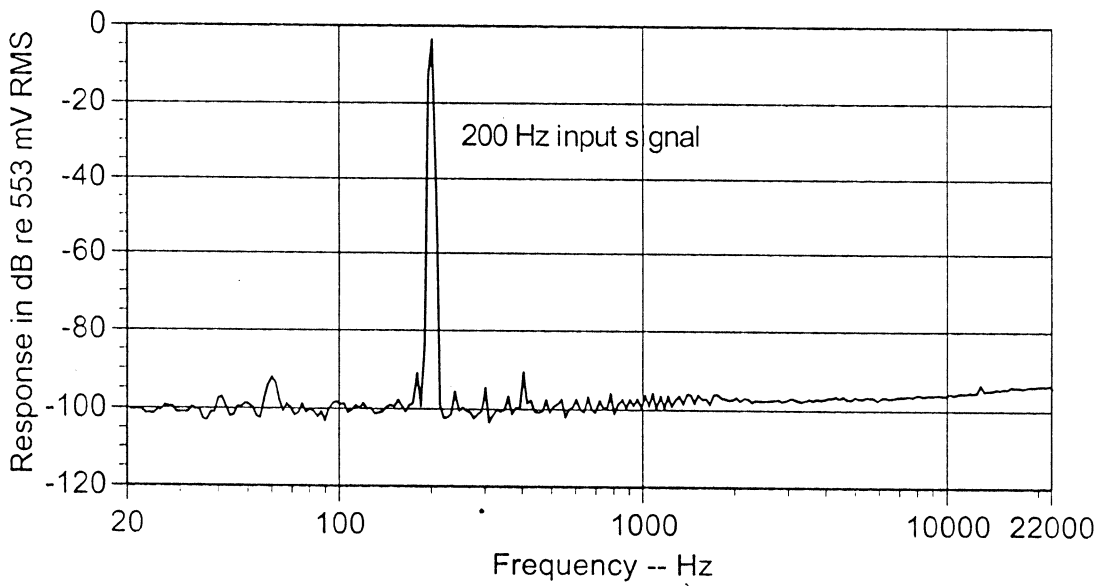
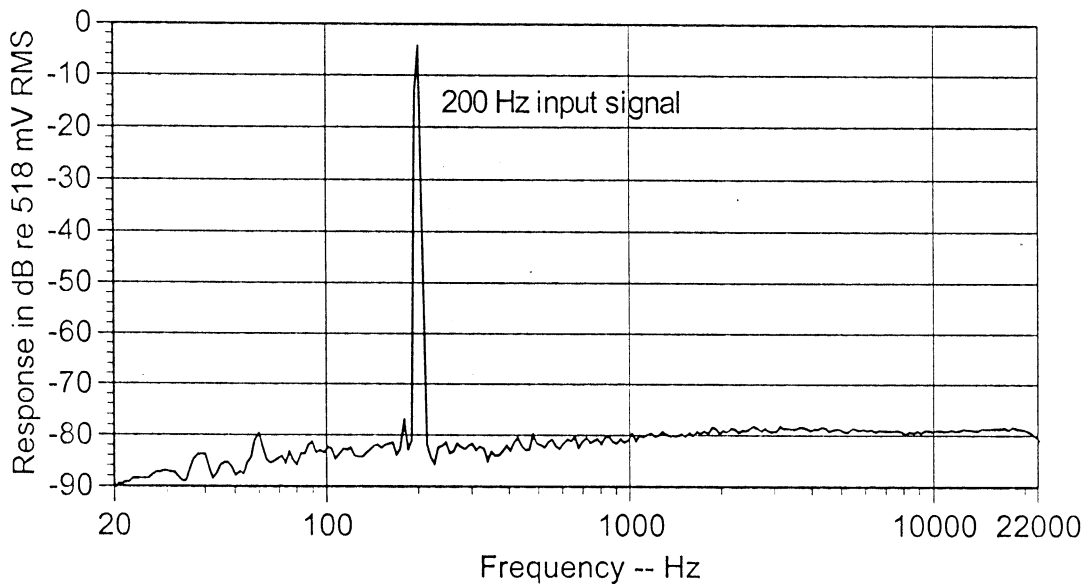

Figure 2 -- Typical output spectrum at 52 dB max gain with volume control set to max.
Figure 3 -- Typical output spectrum at 80 dB max gain with volume control set to max.
**DYNAMIC RANGE:** Figure 2 is a spectrogram of a typical channel with the gain set to 52 dB and gain control at max. (47 K load resistance). Dynamic range is over 90 dB. Figure 3 is a spectrogram of a typical channel set to 80 dB and gain control at max. (200 ohm load resistance). Dynamic range is nearly 80 dB. Actual dynamic range will depend on the output noise and hum of your turntable.
**POWER:** Two internal 9 volt rechargeable NiCd or NiMH batteries provide about 3 hours of operation from a full charge. The 24 VDC power supply plugs into any (US) standard 115 VAC, 60 Hz outlet. (Power supplies for other mains voltages and outlets available on special order.) The charger can be left on to trickle charge the batteries all the time the preamp is not in use. Also, the batteries are on charge during power mains operation (both the green and red LEDs are lighted).